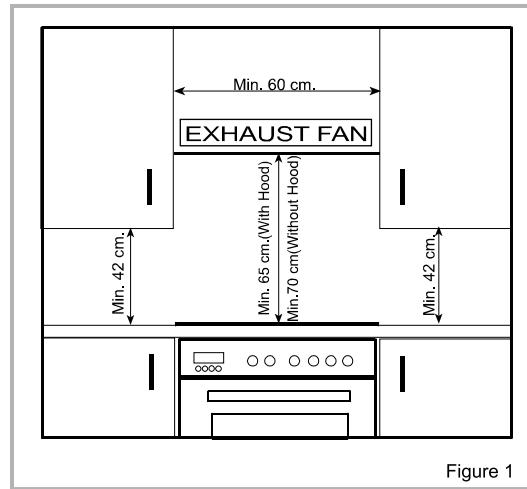

Figure 1
- Required changes to wall cabinets and exhaust fans above the built-in combined product as well as minimum heights from the oven board are shown in Figure 1. Accordingly, the exhaust fan should be at a minimum height of 65 cm from the hob board. If there is no exhaust fan the height should not be less than 70 cm.